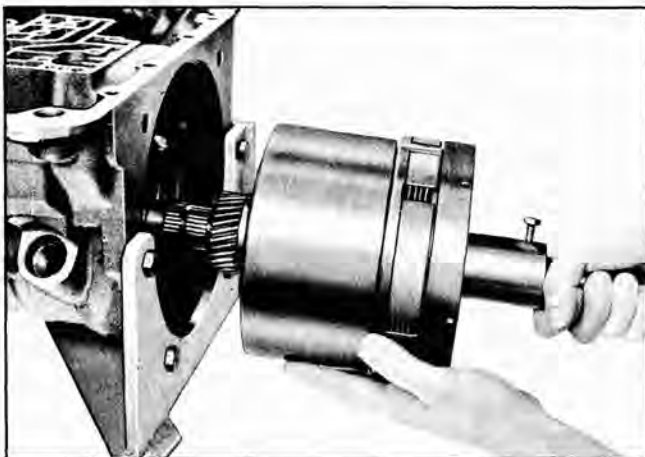

Fig. 61 Removing Rear Unit
10. Slide rear unit, neutral clutch, and case center support assembly out front end of case (Fig. 61).